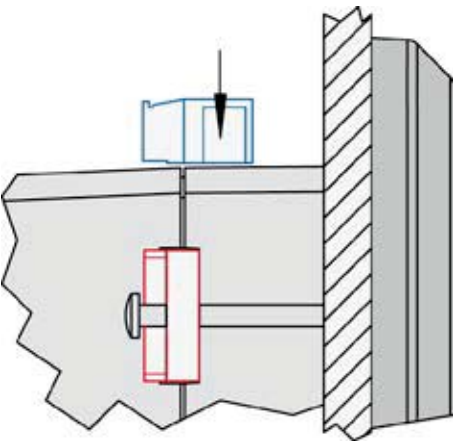

Fig. 15: Reattach terminals
7. → Reattach the wire connection terminal strip (Fig. 15) and secure them with the side screws.